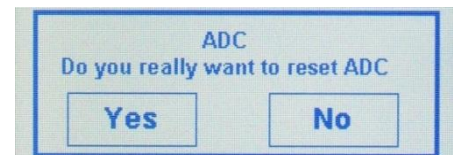

Figure 5
- b) After 3 seconds, the confirmation pop-up message (Figure 5) will be displayed.